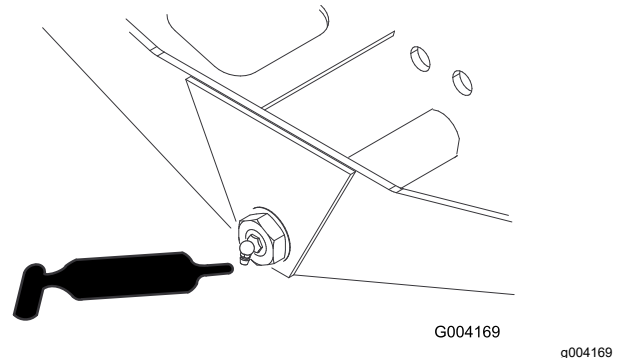

Figure 45
- Axle-steering pivot (1)—Figure 45